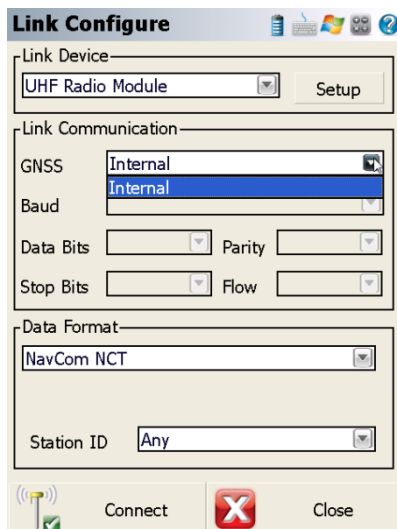

Figure 40: Link Configure
4. On the **Link Configure** dialog box (refer to Figure 40), select **Internal UHF Radio** as the **Link Device**. The **GNSS Port** is **Internal**.
9. On the **Link Configure** dialog box (refer to Figure 40), set the RTK correction format in the **Data Format** dropdown window.
4. On the **Link Configure** dialog box (refer to Figure 40), select **StarFire**. This sets the positioning mode to StarFire.
2. On the **Link Configure** dialog box (refer to Figure 40), select **StarFire**.
9. On the **Link Configure** dialog box (refer to Figure 40), select **None**.
4. On the **Link Configure** dialog box (refer to Figure 40), select **None**.